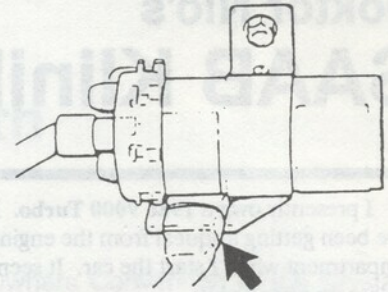

Figure 1. 4-pin connector at the power stage.
1. Disconnect the 4-pin connector from the power stage (see Figure 1) and peel back the connector's protective boot.